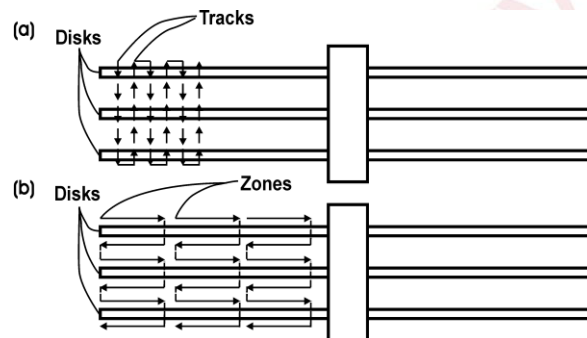

Fig. 4.4. Translation schemes.
Hitachi-IBM drives use two types of translation (see Fig. 4.4): cylinder (A) and zone (B) translation. «A» translation type is used in 3.5" drives while «B» type is employed in 2.5" HDD.